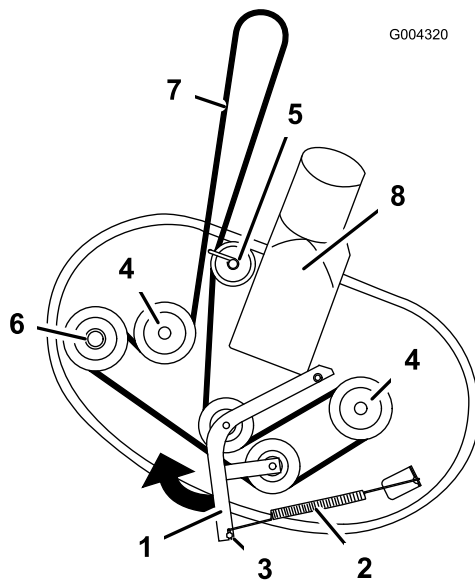

Figure 59
- Loosen fastener securing the belt guide to the rear pulley (Figure 59).
5. Pull the idler arm in the direction shown in Figure 59 and roll the belt off of the pulleys.
6. Route the new belt around the engine pulley and mower pulleys (Figure 59). Install the new belt under the belt guide and around the rear pulley.
7. Pull the idler pulley in the direction shown in Figure 59 and route the belt onto the idler arm pulley and spindle pulleys (Figure 59).
8. Tighten the belt guide fastener on the rear pulley (Figure 59).